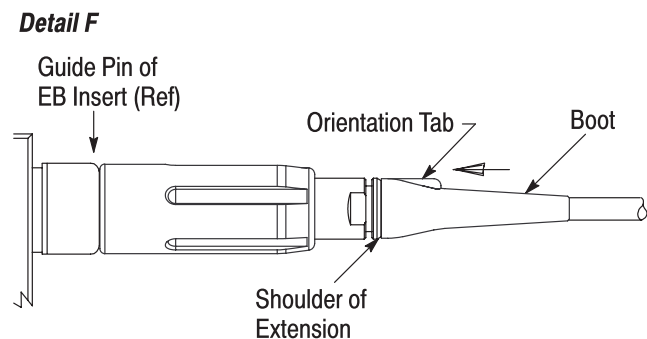

Figure 15
20. Slide the washer against the collet sleeve. See Figure 15, Detail A. Slide the cable seal over the cable until it is approximately 10 mm from the washer. See Figure 15, Detail B.
21. Apply the grease to the front and back and to the outside diameter of the cable seal. Also, apply grease around the cable jacket between the cable seal and the washer. See Figure 15, Detail C.
22. Apply a *thin film* of the grease to the inside edge of the extension (this is necessary to prevent damage to the O-ring of the housing). See Figure 15, Detail C.
23. Slide the extension over the collet nut and into the grip ring. Thread, then hand-tighten the extension onto the grip ring. Using the 17-mm U-wrench, tighten the extension to a torque between 6 and 10 N-m. See Figure 15, Detail D.
24. Apply the instant adhesive completely around the cone and in the groove of the extension. See Figure 15, Detail E.
25. Slide the boot over the cone of the extension until it is tight against the shoulder of the extension. Immediately rotate the boot so that the orientation tab is aligned with a desired reference point (using the guide pin of the EB insert is recommended; facing the bench-mount assembly fixture, the guide pin is positioned at 12 o'clock). See Figure 15, Detail F.